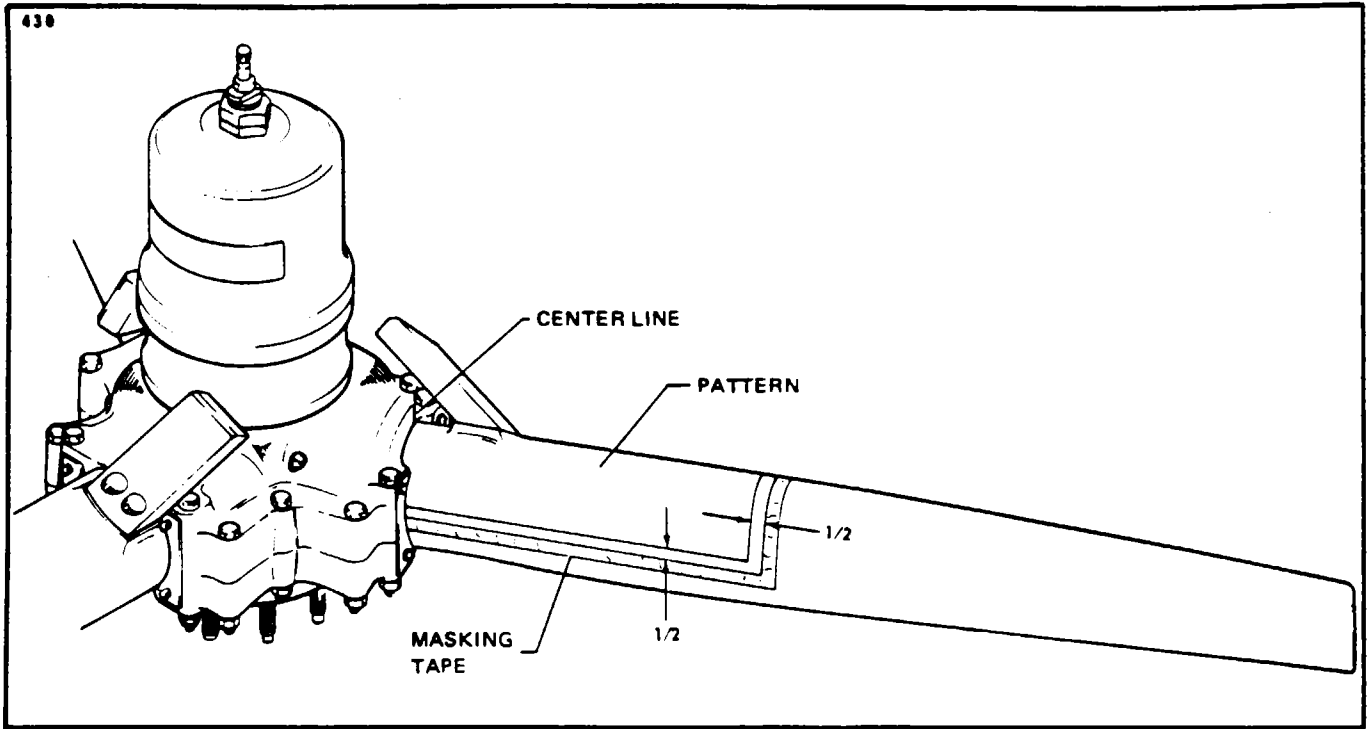

Figure 30-18. Installation of Deicer Boots.
1. Mark and cut from masking tape a pattern the size of the propeller deicer including the first inch of the lead strap. (Refer to Figure 30-18.)
- A. Position in the deicer on the propeller leading edge, using centerlines starting from the hub. (Refer to Figure 30-18.) Make sure that the strap will fall in the position previously marked. Working towards the tip, tack the deicer centerline to the leading edge of the propeller blade. Use tackifying solvent as necessary. If the deicer is allowed to get off course, pull up with a quick motion and remove deicer. Recement if necessary before proceeding. Roll firmly along the centerline with a rubber roller, as shown in Figure 30-18.